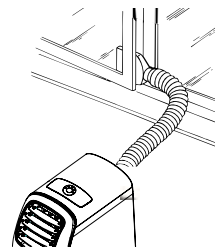

Fig. 2.
- 2) Adjust the length of the hose to reach the window. Make sure the air exhaust hose is unobstructed. Open the window or French window slightly and position the outlet (fig. 2).